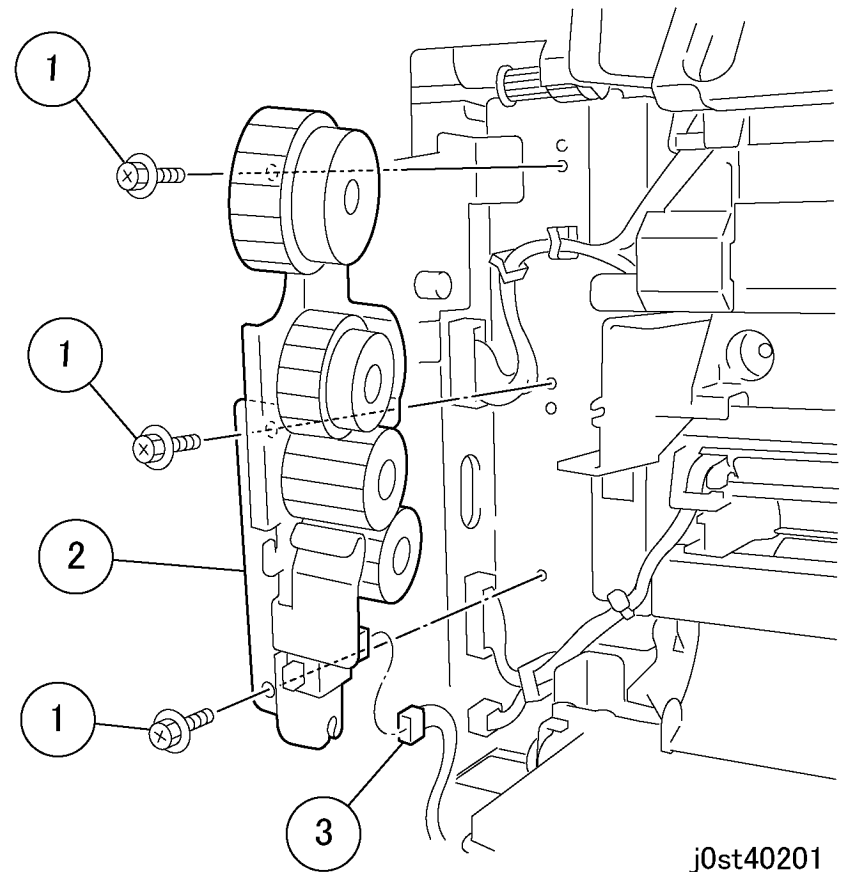

Figure 1 Removing the Gear Assembly (j0st40201)
4. Remove the Gear Assembly. (Figure 1)